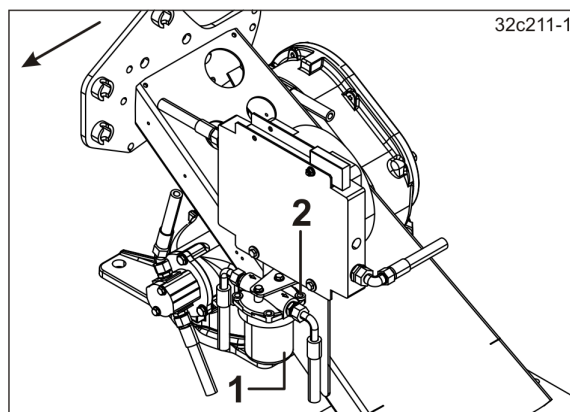

Fig. 142
1. Remove the oil filter cartridge (Fig. 142/1).
- 1.1 Undo the screws (Fig. 142/2).